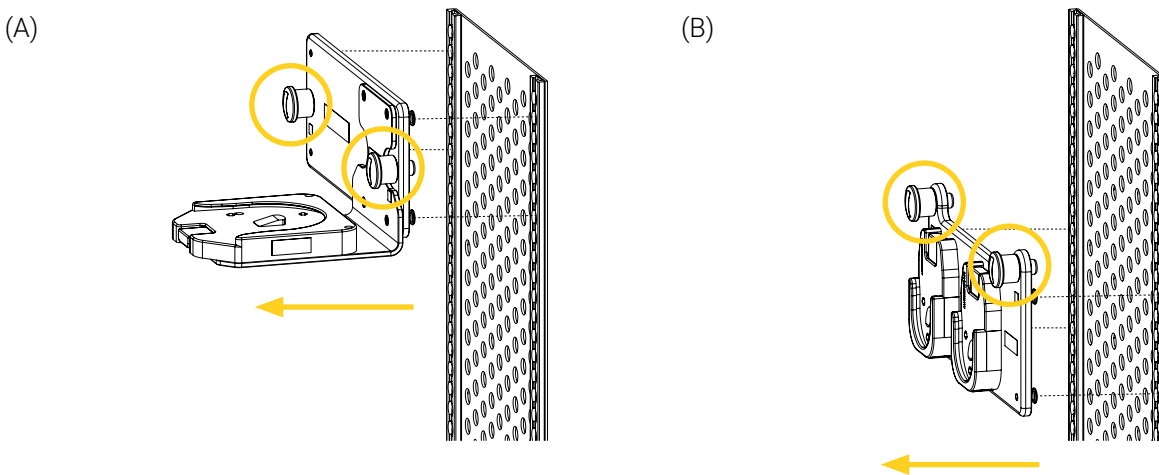

Figure 13: Removing the mounting system from the vertical tracks of the vertical surface (2 of 2)
5. Pull the mounting system horizontally out of the vertical tracks using the rotary locks (Figure 13), then set it aside or store as per your internal protocols.